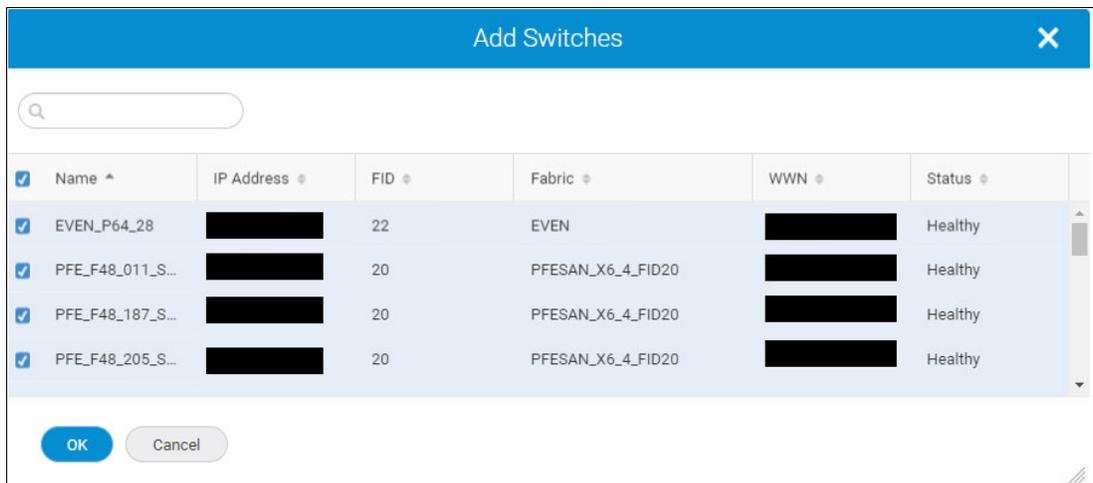

Figure 5-155 Add Switches
- b. Select the switches from the list, and then click **OK** (Figure 5-155).